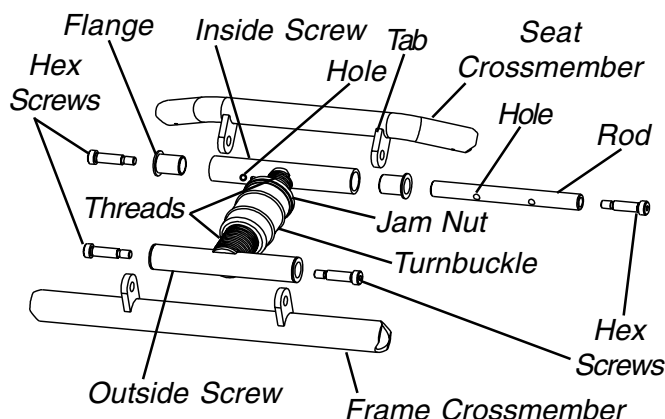

FIGURE 5 - REPLACING TURNBUCKLE ASSEMBLY -
REPLACING TURNBUCKLE ASSEMBLY - A-6/A6-S ONLY (FIGURE 5)
NOTE: The turnbuckle assembly consists of the inside screw, turnbuckle, outside screw, flanges and rods. If the turnbuckle assembly becomes disassembled, refer to FIGURE 5.
3. Remove the two (2) hex screws securing the inside screw to the seat crossmember.
7. Position the NEW turnbuckle assembly with the jam nut towards the seat crossmember as shown in FIGURE 5.
10. Apply a removable thread locker to the threads of one (1) hex screw.